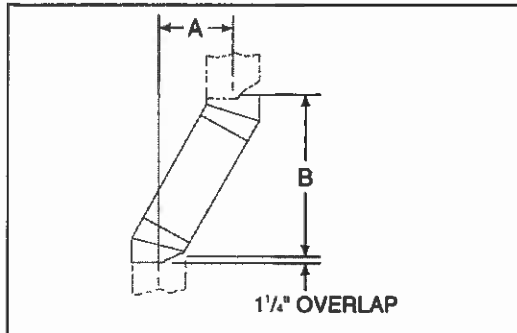

Figure 8 - Chimney Offset/Return
- 1) Measure how far the chimney needs to be shifted to enable it to avoid the overhead obstacle. See Figure 8 dimension "A".
Example: Your "A" dimension from Figure 8 is 14-1/2". Using Table 1, the dimension closest to but not less than 14-1/2" is 14-5/8" using the 30° offset/return. It is then determined from the table that you would need 33" (dimension "B") between the offset and return. The chimney components that best fit your application are two SL312's.